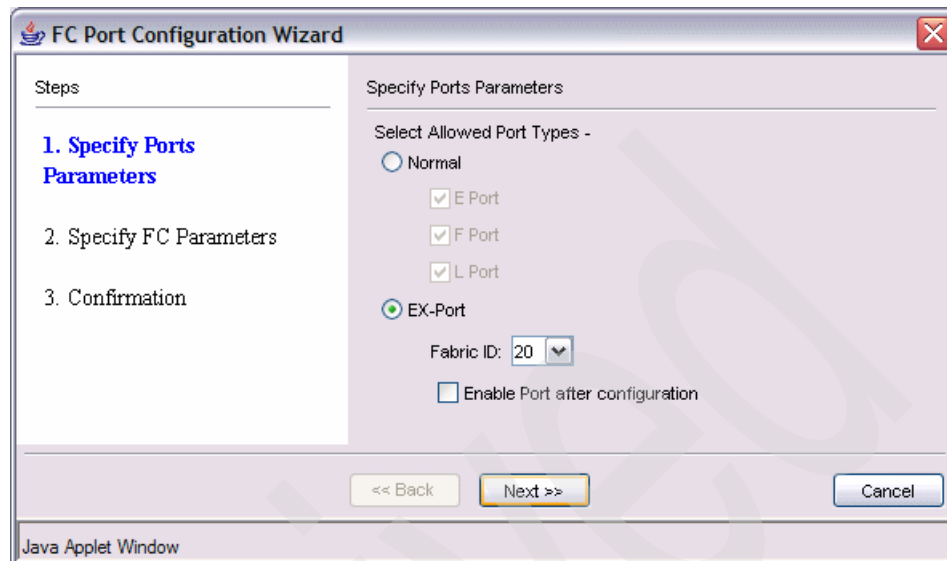

Figure 6-81 Setting the EX-port type
4. The EX-port type requires you to set the Fabric ID as well (see Figure 6-81).